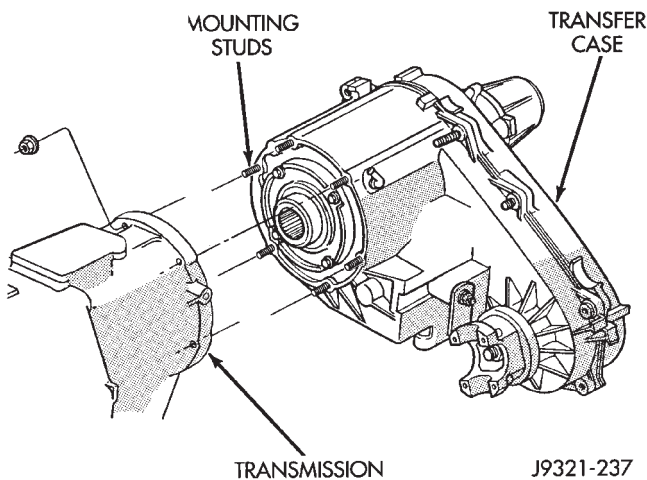

Fig. 2 Transfer Case Mounting
- (1) Shift transfer case into Neutral.
- (2) Raise vehicle.
- (3) Drain transfer case lubricant.
- (4) Mark front and rear propeller shaft yokes for alignment reference.
- (5) Support transmission with jack stand.
- (6) Remove rear crossmember and skid plate, if equipped.
- (7) Disconnect and support front/rear propeller shafts at transfer case.
- (8) Disconnect vehicle speed sensor wires.
- (9) Disconnect transfer case linkage rod from range lever.
- (10) Disconnect transfer case vent hose (Fig. 2) and indicator switch harness, if necessary.
- (11) Support transfer case with transmission jack.
- (12) Secure transfer case to jack with chains.
- (13) Remove nuts attaching transfer case to transmission.
- (14) Pull transfer case and jack rearward to disengage transfer case.
- (15) Remove transfer case from under vehicle.
- (1) Mount transfer case on a transmission jack.
- (2) Secure transfer case to jack with chains.
- (3) Position transfer case under vehicle.
- (4) Align transfer case and transmission shafts and install transfer case on transmission.
- (5) Install and tighten transfer case attaching nuts to 35 N·m (Fig. 2).
- (6) Connect vehicle speed sensor wires, and vent hose.
- (7) Connect indicator switch harness to transfer case switch, if necessary. Secure wire harness to clips on transfer case.